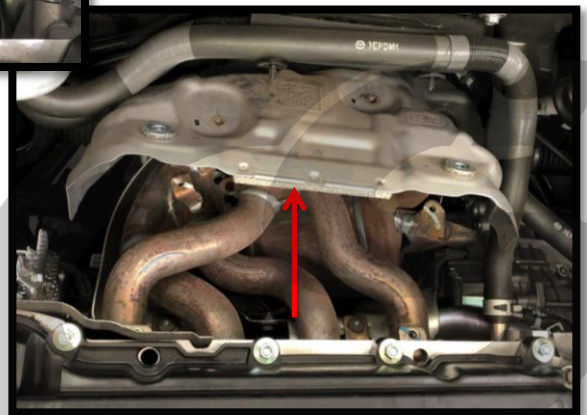

Figure 2h
- j) Slide the heatshield toward the rear of the car to expose the OEM header and engine mounting flange. Shown in **Figure 2h**.